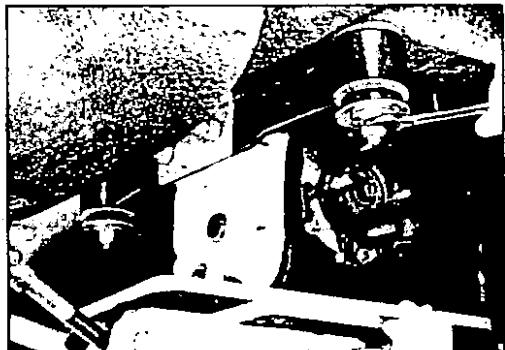

Fig. G.3 Removing the differential mounting member.
2. Support the differential with a jack and remove the nuts securing the differential mounting crossmember (Fig.G.3.).